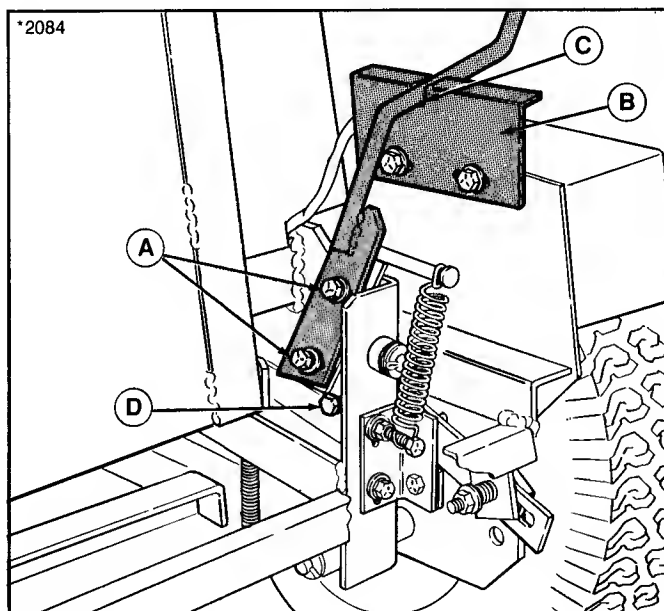

Figure 20.
To adjust the angle of lever, loosen capscrew (A, figure 20). Adjust lever position and retighten capscrew. Neutral gate brackets (B) must be adjusted so that new position of lever will be aligned with neutral gate (C) when rider is in neutral.